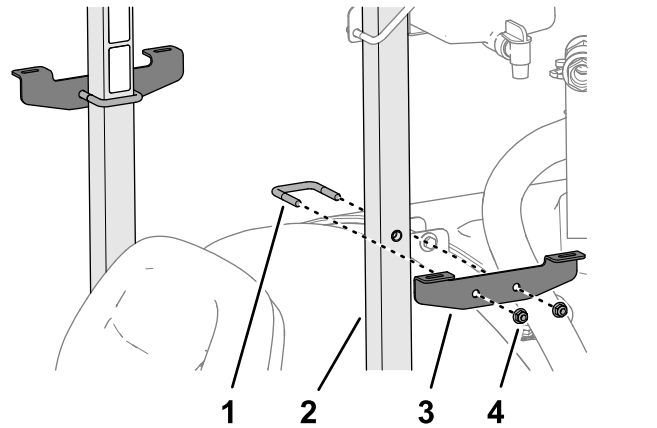

Figure 27
3. Install the mount bracket to the rollbar tube (Figure 27) with a U-bolt and 2 flange locknuts (3/8 inch).